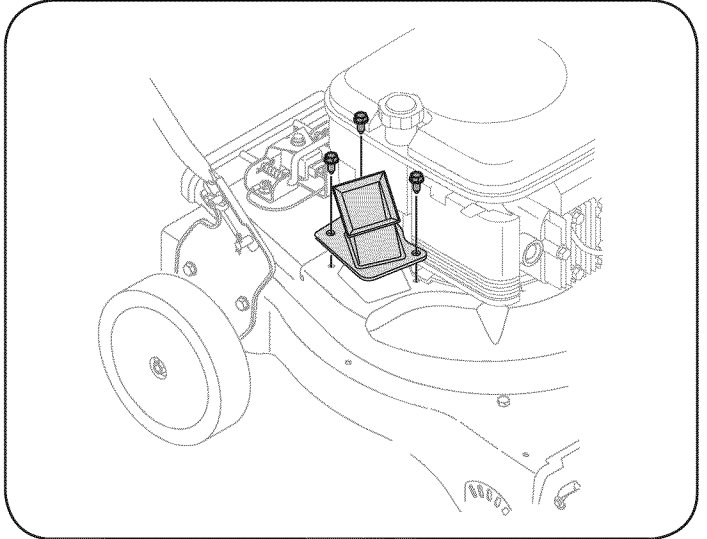

Figure 24
3. Remove the three hex cap screws holding the chipper chute to the upper housing. See Figure 24.